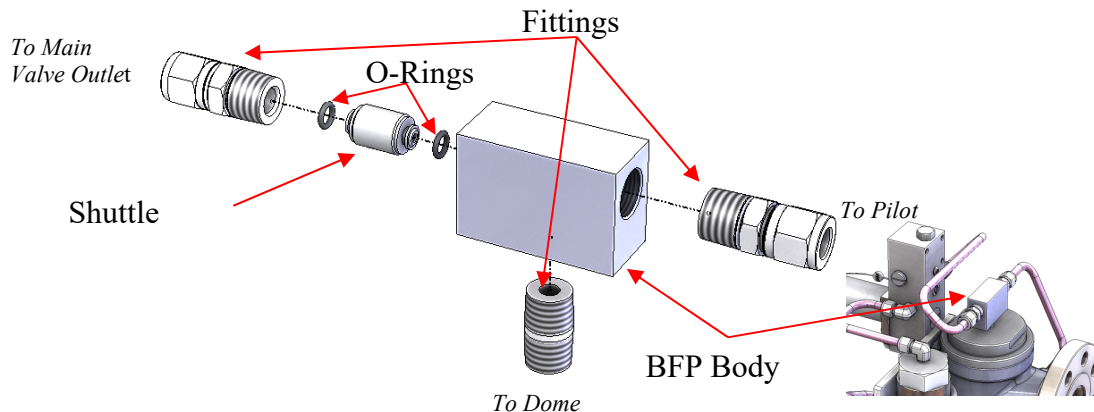

Figure 36: Backflow Preventer
If equipped, the backflow preventer can be removed. Refer to Section VII b) or see Figure 36.
- d) Remove the fittings from the BFP body. See Figure 36.